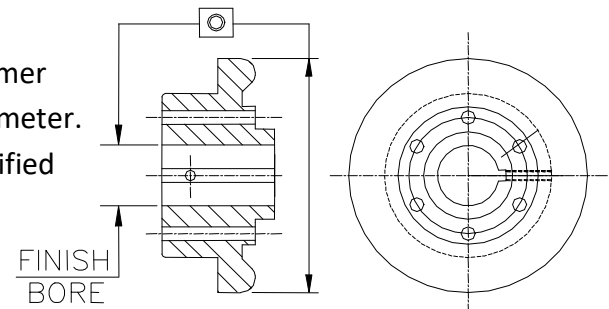

Fig.4
3.1 Finish Bore Instruction (Fig. 4)